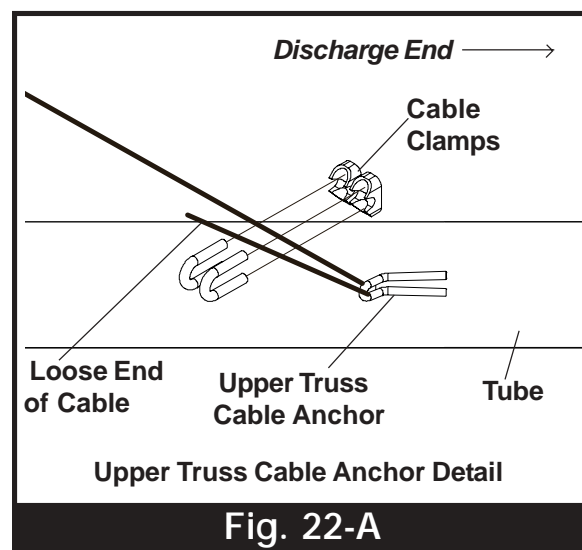

Fig. 22-A
1. Start with the right side of the upper truss cable anchor (located near discharge end) that is welded to the 6" half band. Guide the end of one cable through the cable anchor and attach the loose end of the cable to itself using two (2) sets of cable clamps. (See Fig. 22-A)
2. Run the cables to the top right side of the truss arm and fasten the cable to the truss using a 3/8" cable clamp. **DO NOT** fully tighten the cable clamps. The cable must be able to slide freely through the clamps when taking up the slack. (See Fig. 22-B.)
- Run the cable down to the right lower eyebolt anchor located on the lower 6" half-band. Slide cable through the eyebolt and fasten loose end of cable using two cable clamps for each cable. (See Fig. 22-C.)
- Starting with the right side upper truss cable anchor that is welded to the 6" half band located, near the discharge end, guide one end of the 52' support cable through the cable anchor and fasten the loose end of cable to itself using two (2) 5/16" cable clamps. (See Fig. 22-A on page 29)
- Loop the end of the 31' cable through the right side truss cable anchor located under the 32" truss arm. Fasten cable with (2) 5/16" cable clamps.